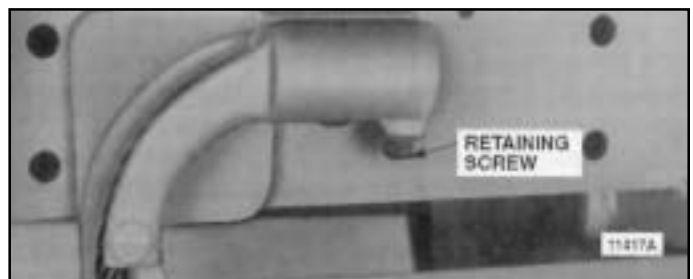

Figure 2-4. Rope End Anchor.
d. Check Lower Block and Hoisting Cable. Depress ↓ push button and run lower block to its lowest position. No less than two wraps shall remain on the drum with the loaded hook in its lowest position, unless hoist is equipped with a lower limit switch in which case no less than one and one half wraps shall remain on the drum. Also check to see that lower block and rope does not twist excessively. If it does twist to the extent that two ropes rub against each other, disengage rope from the frame anchor and twist rope four or five turns in a direction opposite to that which the block turns. Reconnect rope to anchor (Figure 2-4), holding firmly to eliminate rope twisting back to its original position. Operate hoist up and down a few times. If lower block still rotates, repeat process until twisting is corrected.